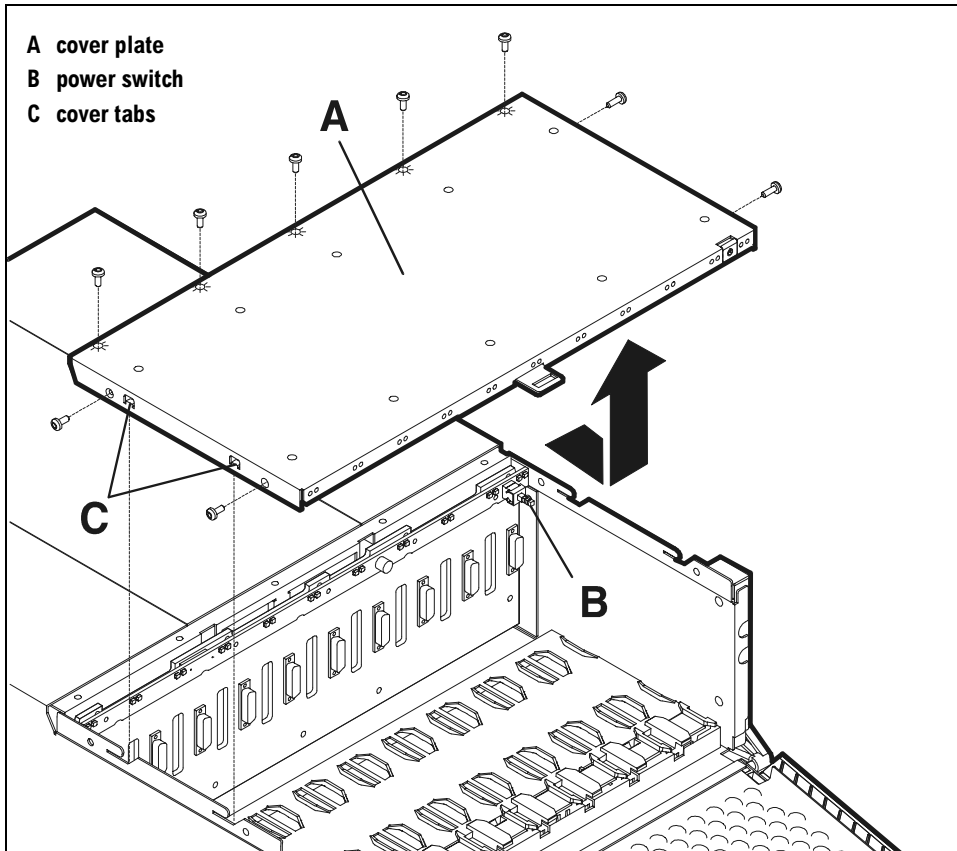

Figure 59 Top Cover Assembly
2. Remove the nine Torx T10 screws from the back and side edges of the cover plate (A in Figure 59). Screws are marked by a star pattern in the sheet metal.
1. When you are ready to replace the cover, set the cover on the chassis so that the tabs (C in Figure 59) settle into the slots in the upper edge of the chassis.
2. Slide the cover to the middle of the chassis. The push rod automatically engages the internal switch (B).